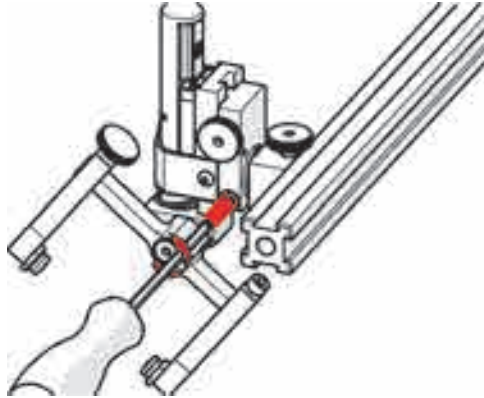

Figure 4-63 Loosen 3 mm screw
2. Using the supplied 3 mm hex driver, loosen the longitudinal adjustment screw (see Figure 4-63 on page 142).